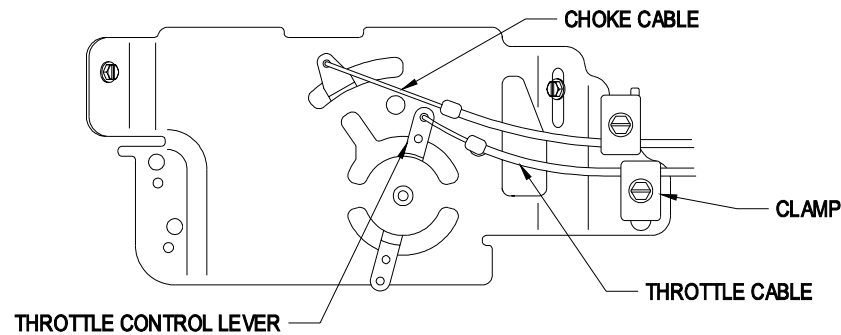

FIGURE 2
- Attach inner wire of the throttle cable to the top hole in the throttle control lever as shown in Figure 2.